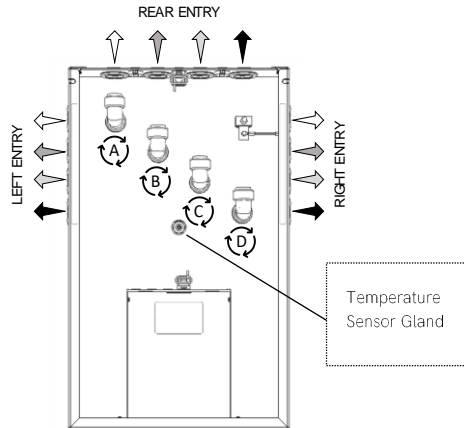

Figure 7 - Thermino xPlus Ports
- Rotate the elbows to the side you wish to connect the hydraulics (left, right or back) (Figure 7).